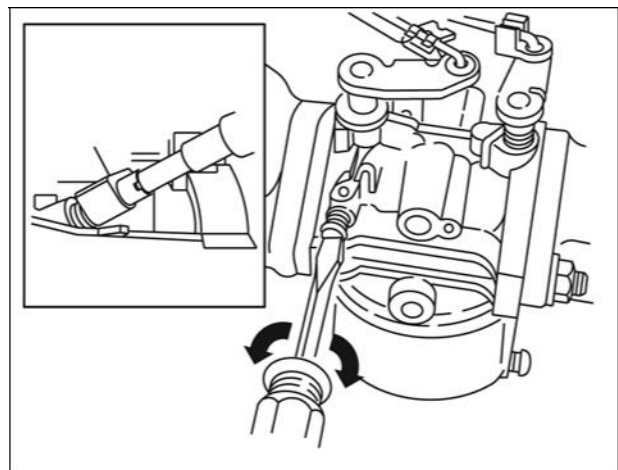

Figure 25
5. Turn idle mixture screw (A, Figure 25) to mid point between rich and lean.